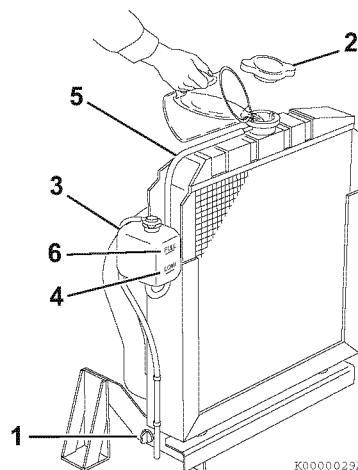
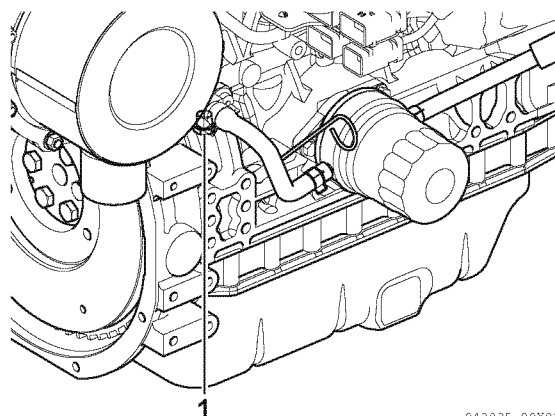

Figure 4
Figure 5
1. Check to be sure the radiator drain plug is installed and tightened or the drain valve (1, **Figure 4**) is closed. Also make sure the coolant hoses (1, **Figure 5**) are installed at the oil cooler.
2. Remove the radiator cap (2, **Figure 4**) by turning it counterclockwise about 1/3 of a turn.
4. Reinstall the radiator cap (2, **Figure 4**). Align the tabs on the back side of the radiator cap with the notches on the engine coolant filler port. Press down and turn the cap clockwise about 1/3 of a turn.
5. Remove the cap of the reserve tank (3, **Figure 4**), and fill it to the LOW (COLD) mark (4, **Figure 4**) with engine coolant. Reinstall the cap.
6. Check the hose (5, **Figure 4**) that connects the reserve tank (3, **Figure 4**) to the radiator. Be sure it is securely connected and there are no cracks or damage. If the hose is damaged, engine coolant will leak out instead of going into the reserve tank.
7. Run the engine until it reaches operating temperature. Check the level of engine coolant in the reserve tank. When the engine is running and the engine coolant is at normal temperature, the coolant level in the reserve tank should be at or near the FULL (HOT) mark (6, **Figure 4**). If the coolant is not at the FULL (HOT) mark, add coolant to the reserve tank to bring the coolant level to the FULL (HOT) mark.
1. Check the level of engine coolant in the reserve tank. When the engine is cold, the coolant level in the tank should be at or slightly above the LOW (COLD) mark (4, **Figure 4**) on the coolant reserve tank.
If the coolant level is at the FULL (HOT) mark (6, **Figure 4**) when the engine is cold, the coolant will expand when it becomes hot and possibly spray out of the overflow hose.